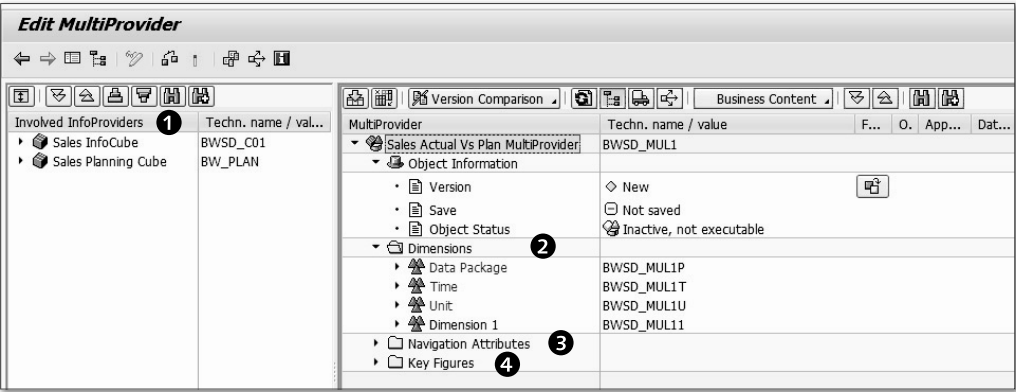

Figure 6.6 Edit MultiProvider Initial Screen
The system takes you to the EDIT MULTIPROVIDER screen, as shown in Figure 6.6. The initial definition of MultiProvider BWSD_MUL1 is shown with included InfoCubes (BWSD_C01 and BW_PLAN) ❶. Four default dimensions are shown ❷: DATA PACKAGE, TIME, UNIT, and DIMENSION 1. This screen also offers a section to include NAVIGATION ATTRIBUTES ❸ and KEY FIGURES ❹.